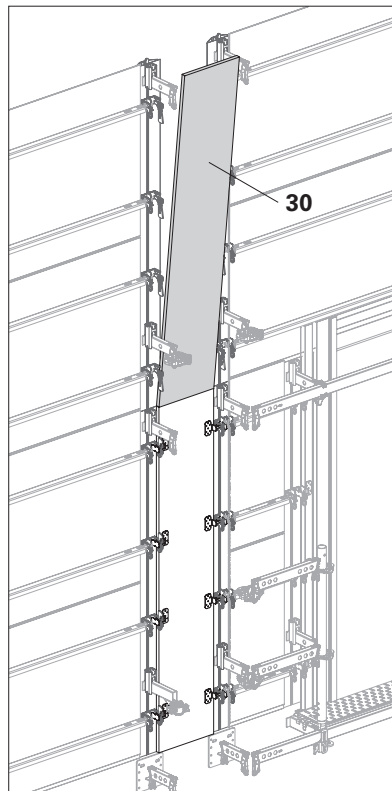

Fig. C5.01
2. Cut the wooden panels (**30**) to size (clear width dimension between the wedge locks minus 1 cm) and press them against the support rails from the inside. Place each panel on the panel mounted below and hold it in place. (Fig. C5.01)